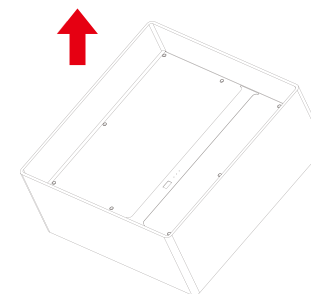

Figure 2.6 Remove SMILE-B3 Packaging
Step 1 Take out SMILE-B3 from the packaging box, as shown in Figure 2.6